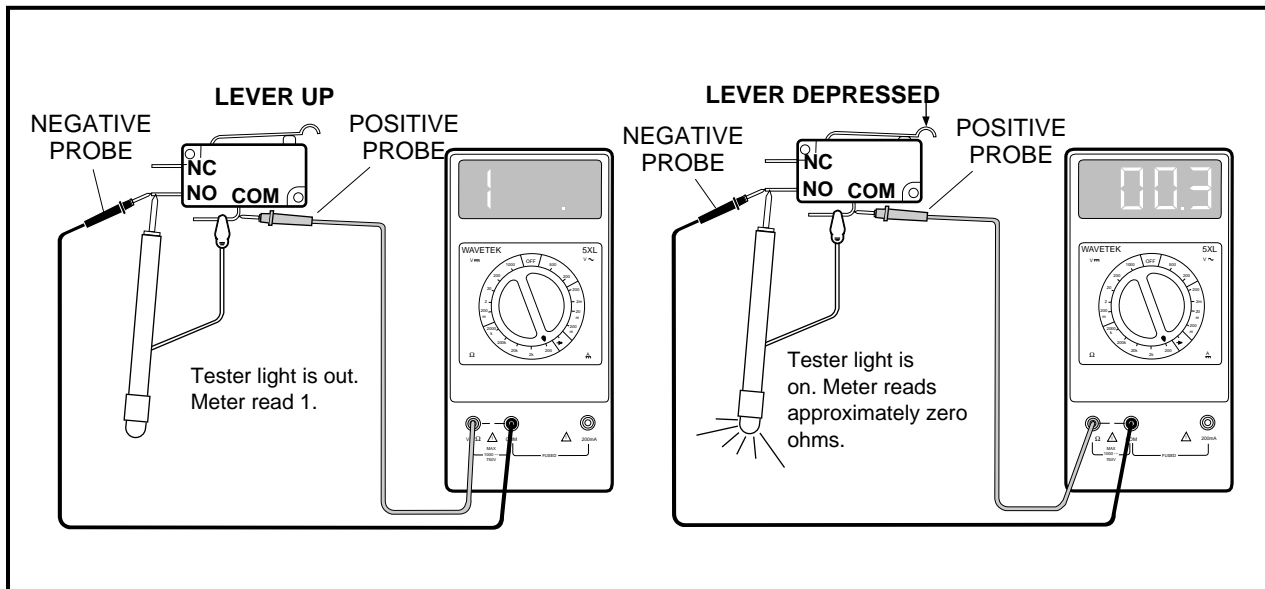

Figure 11-32 Test Neutral Lockout Switch
3. Set a multimeter to 200 Ω (ohms). Place the red (+) probe of the multimeter on the common (COM) terminal of the limit switch. Place the black (–) probe on the normally open (NO) terminal of the limit switch. Without the lever depressed, the reading should be **NO** continuity. With the lever depressed, the reading should be continuity. If either reading is incorrect, replace the limit switch (**Figure 11-32, Page 11-25**).